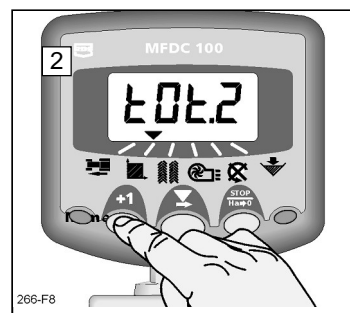

Fig. 8: Selection of total 1 or total 2
2. Press the **+1** button to switch back and forth between the two total-area readings. (Fig. 8).